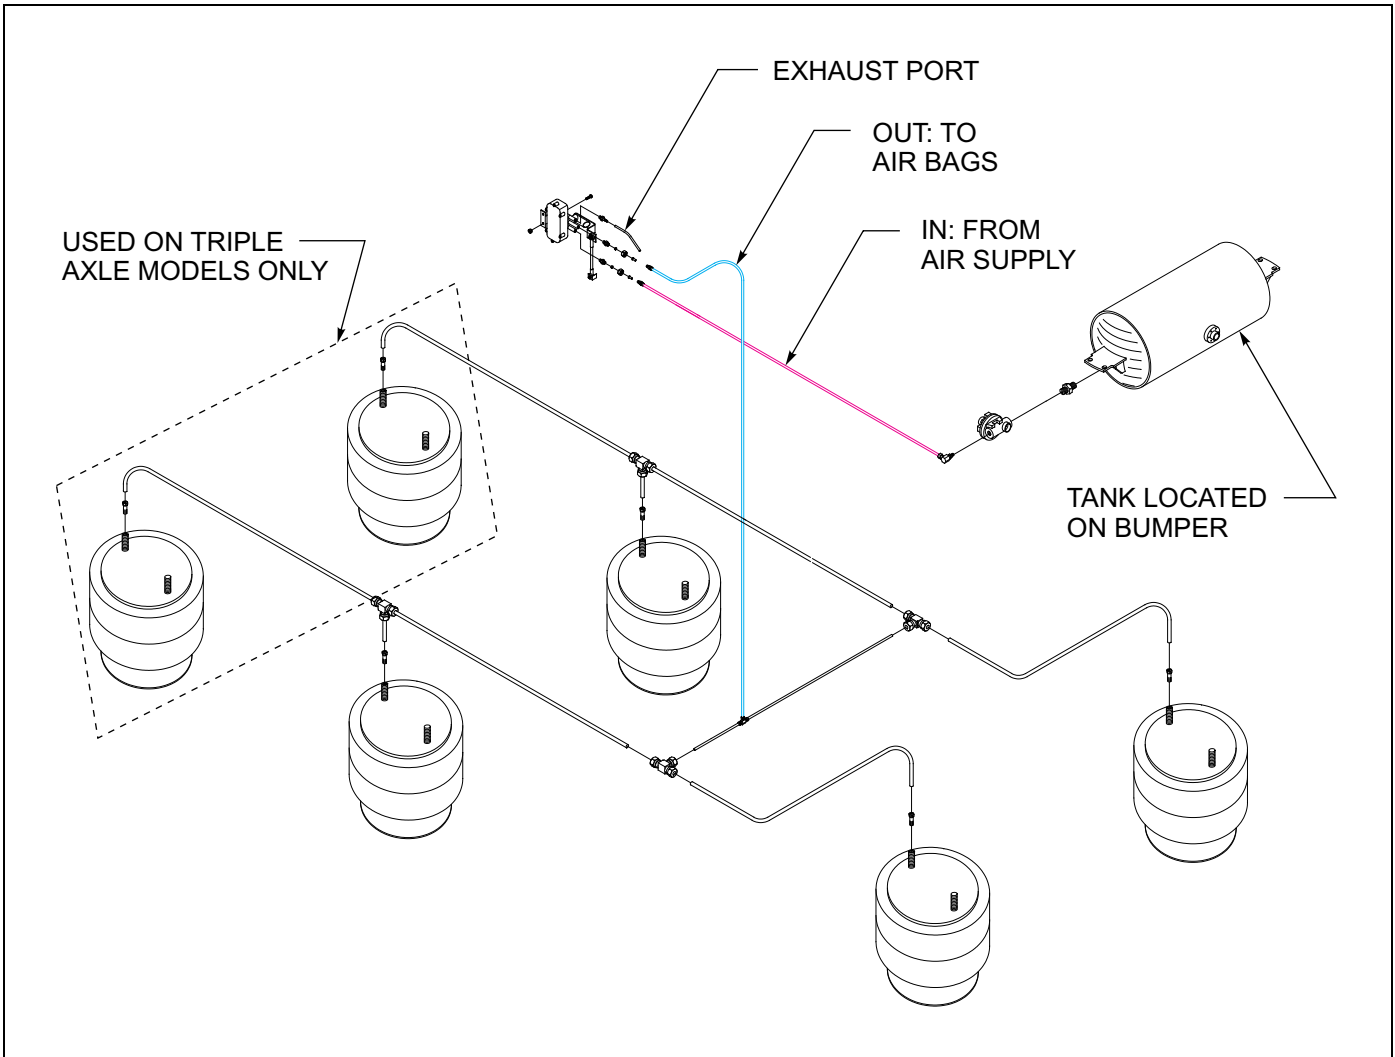

Figure 4-5: Tandem/Triple Air Ride Suspension System
1. See **Figure 4-5** for Axle Air Ride Suspension drawings.